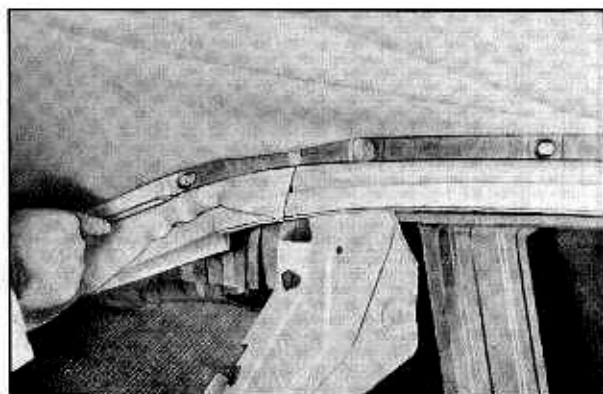

Fig. 3-113 Marking Position of Back Curtain and Top
13. Inside the body, draw down the outer ends of the back curtain (see Step 2) and the top material. When it has been determined that the back curtain and top material are fitting properly together and to the chrome belt molding, mark the curtain and top as shown in Fig. 3-113, and install enough trim stick screws to maintain position.